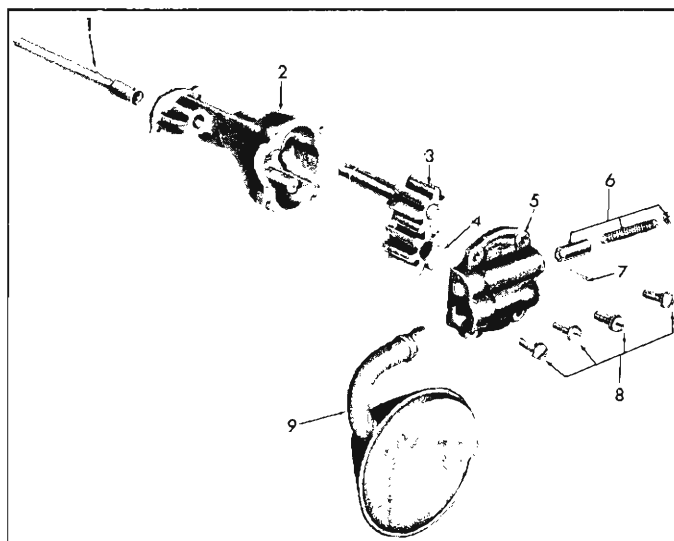

Fig. 84—Oil Pump Exploded
The oil pump (fig. 84) has a baffle incorporated on the intake pipe and screw assembly (9) shown in Figure 84. This baffle is designed to eliminate pressure loss due to sudden surging stops.